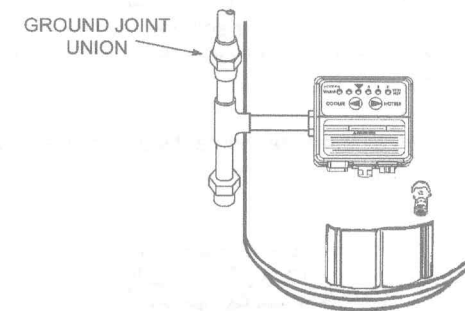

FIGURE 6.
7. Disconnect the gas supply piping to the water heater preferably at the ground joint union (if installed), see Figure 6.
8. Disconnect all the piping from the Intelli-vent™ Thermostat Control, (184768 Series), see Figure 6.